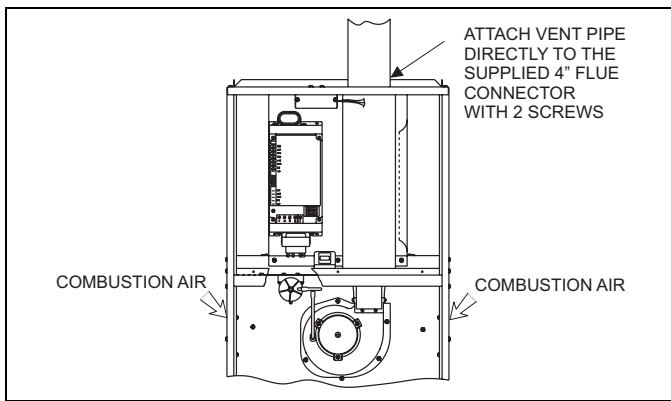

FIGURE 20: Combustion Airflow Path Through The Furnace Casing
The vent system must be attached to the flue collar with a minimum of two (2) mechanical fasteners, such as screws or rivets. See Figure 20.